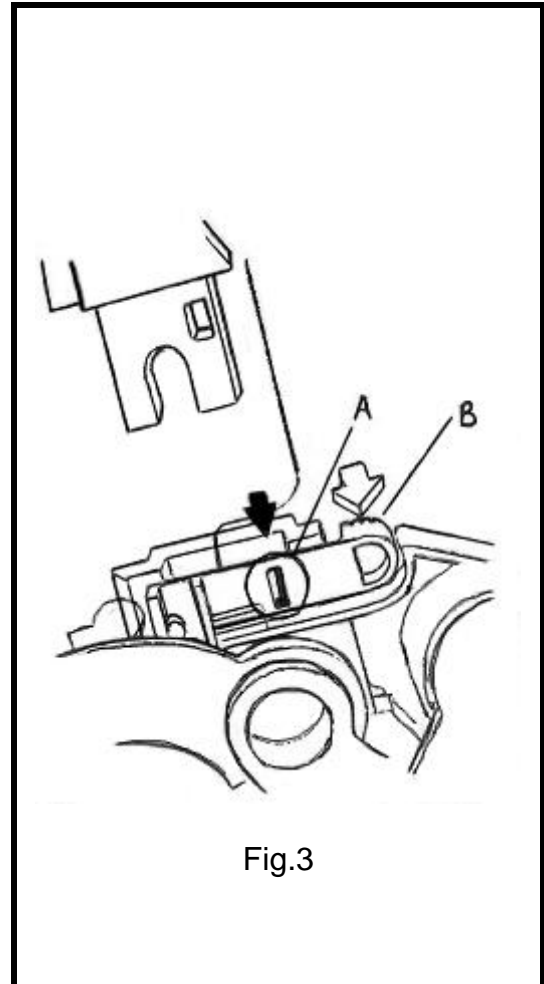

Fig.3
1. Feed the square hole in the back corner of the chin guard into the slot between the brow guard and boss mouldings, aligning the square hole with the hole "A" in Fig. 3. Push down until it clicks home.